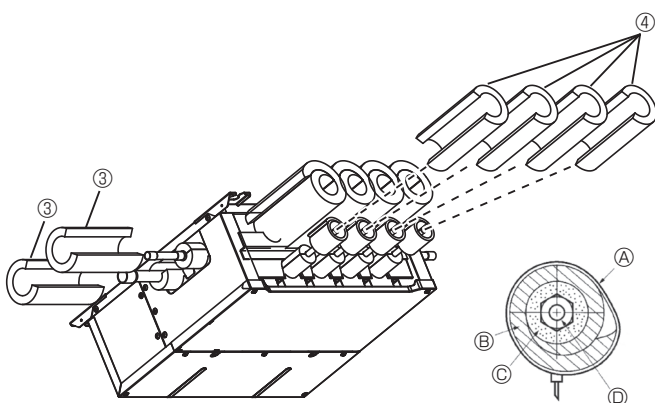

Fig. 6-9
- (7) Wrap the supplied pipe covers (liquid/gas) ③/④ by butting them to the Branch box. Tighten the bands ⑬ to fix the covers at 10 - 20 mm from their both edges. In addition, tighten the bands ⑬ to fix the covers ③ at their center. (Fig. 6-9)